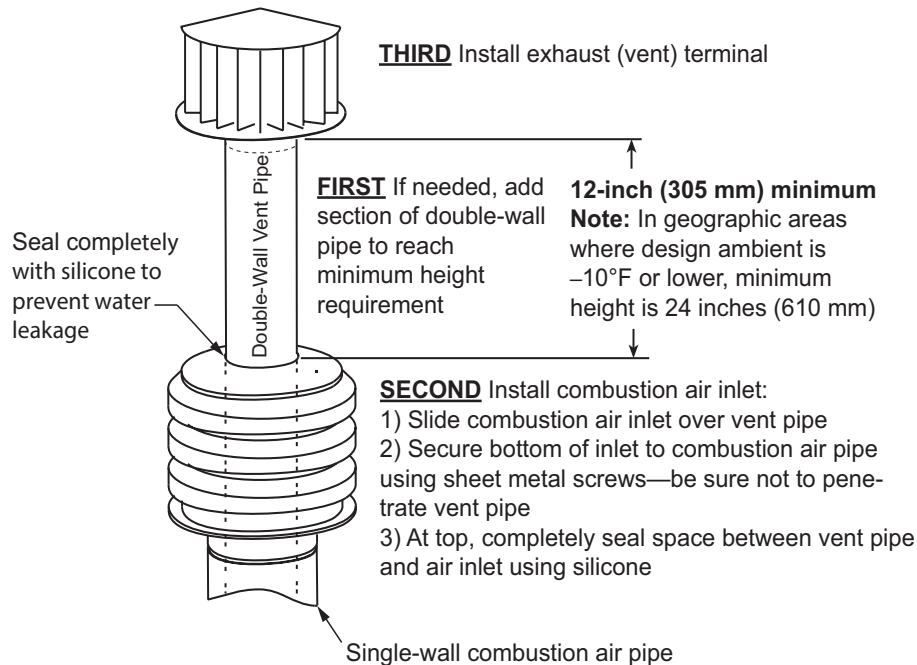

Figure 12. Combustion Air Inlet and Vent Terminal Installation
8. Install combustion air inlet (see **Figure 12**):
9. Install exhaust (vent) terminal cap (see **Figure 12**) in accordance with **Vent System Sealing** section of installation manual provided with heater.